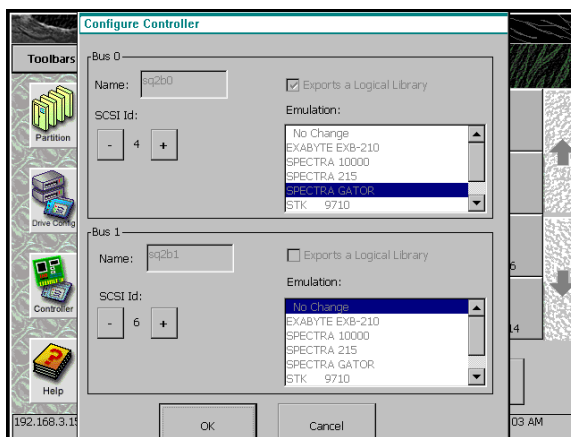

Figure 5-4 The Configure Controller window.
4. In the Drives section, select the controller you would like to configure by tapping the drive it is connected to. Tap **Configure Controller**. This brings up the Configure Controller window (Figure 5-4).